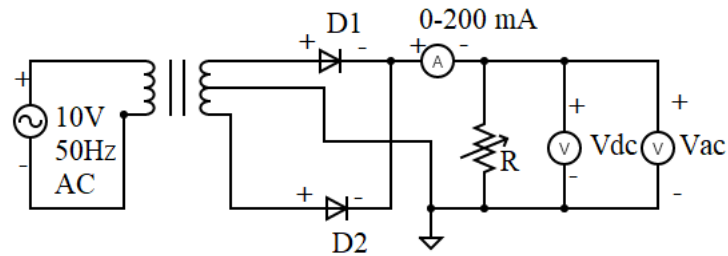

Figure 4: Circuit Diagram for Full Wave Rectifier without Filter
1. Design a Full-wave rectifier circuit and analyse its output as shown in Figure. 4
2. Analyse the rectifier output using a capacitor in shunt as a filter as shown in Figure. 4